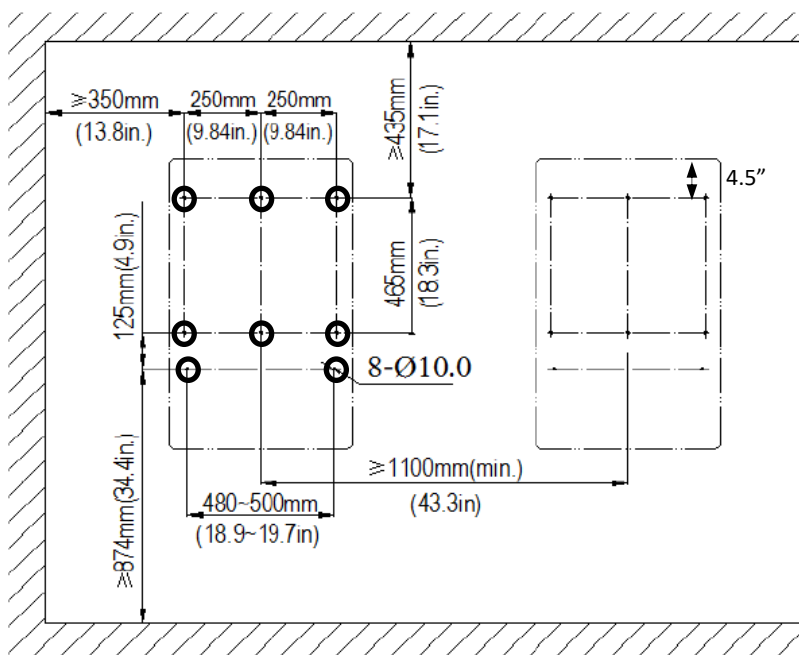

Figure 2.5 - Holes on the Bearing Surface Dimensions
(1) Mark the 8 holes on the bearing surface for mounting the bracket as shown in Figure 2.5;